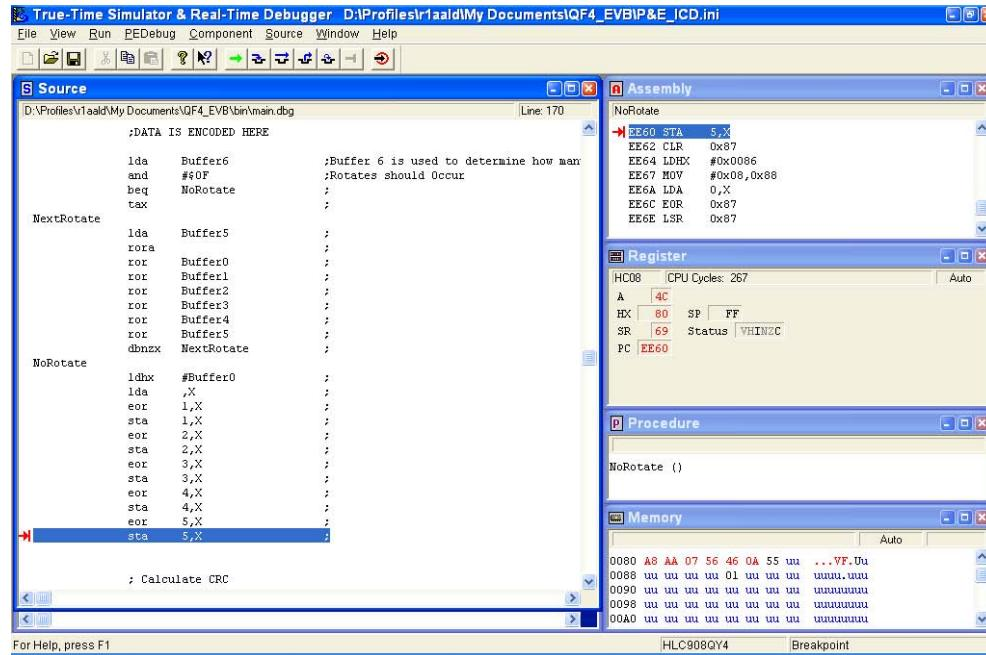

Figure 9. Encoding the Data
3. **Encoding the Data** — After the buffer has been created, it is encoded by rotating the data in the transmission buffers. The number of rotations is sent in the transmission frame so the code can be decoded by the receiver. See Figure 9.